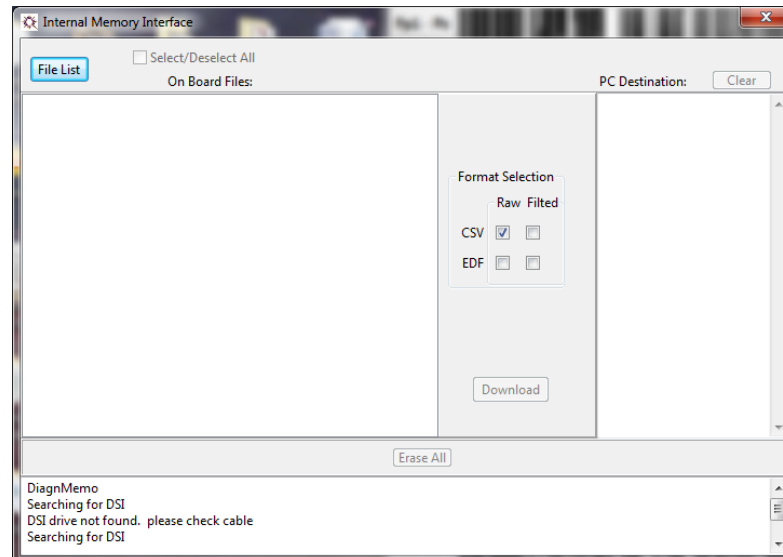

Figure 20 – Record Internal Memory Dialog Window.
- Click the **Manage Files** button to open the **Internal Memory Interface** dialog window (Figure 20).